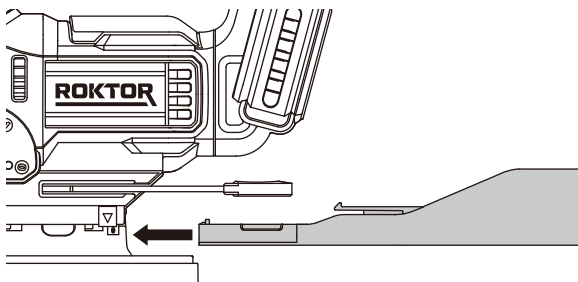

Figure 2-1
2. VACUUM ADAPTOR FITTING (SEE FIG. 2-1 & 2-2)